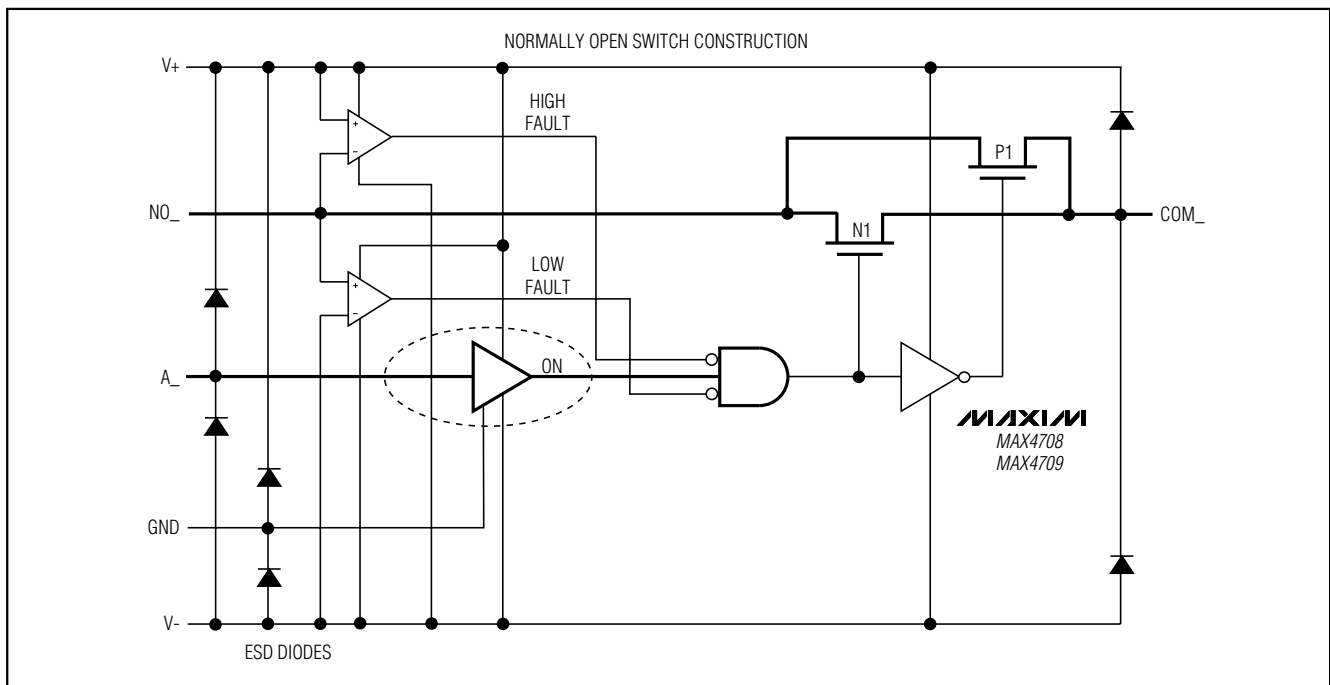

Figure 1. Functional Diagram
Figure 1 shows the internal construction of a single normally open (NO) switch, with the analog signal paths shown in bold. The parallel combination of N-channel FET N1 and P-channel FET P1 form the analog switch. During normal operation, these FETs are driven on and off simultaneously according to the control voltages on A₁. During a fault condition, both FETs turn off.
Two comparators continuously compare the voltage on NO₁ with V₊ and V₋ supply voltages. When the signal on NO₁ ranges between V₊ and V₋, the multiplexer operates normally, with FETs N1 and P1 turning on and off in response to the control signals on A₁ (Figure 1). When the switch state is on, the parallel combination of N1 and P1 forms a low-value resistor between NO₁ and COM₁ so that signals pass equally well in either direction. When the switch state is off, both NO₁ and COM₁ are high-impedance inputs.